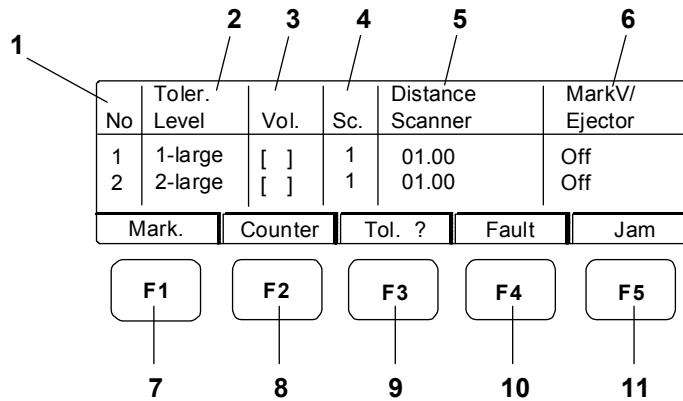

Figure 12-5. Inspection Screen
2. To display the inspection screen, press F1 (Config.). The inspection screen displays (Figure 12-5).